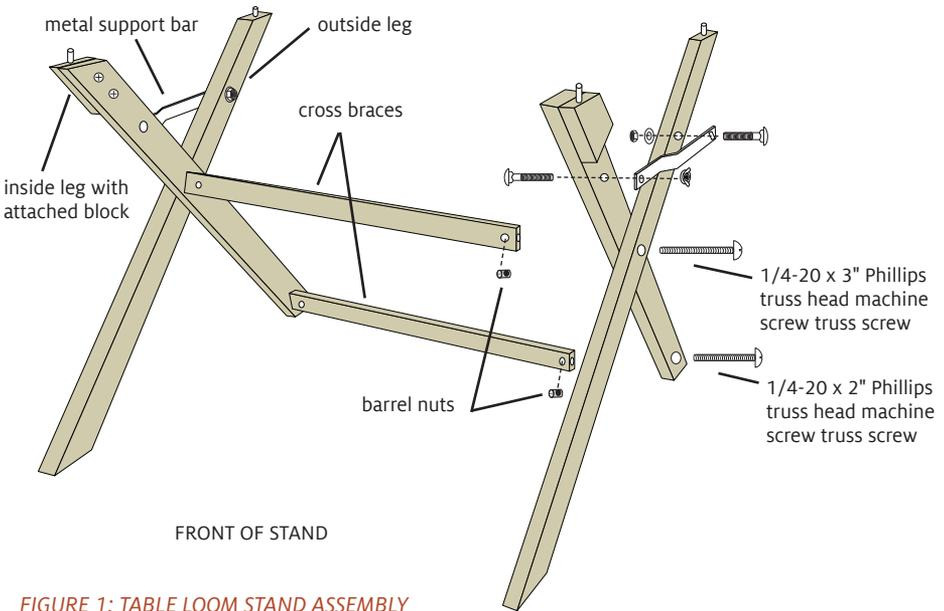

FIGURE 1: TABLE LOOM STAND ASSEMBLY
3. Attach the lower cross brace: Insert a barrel nut into each hole of one of the cross braces. Insert a 1/4-20 x 2" Phillips truss head machine screw through the bottom hole of an inside leg and tighten into the barrel nut in the lower cross brace (Figure 1). Repeat for the other inside leg.
4. Attach the upper cross brace: Place the outside legs, with pins facing up, on the outer side of the inside legs. Insert a barrel nut into each hole of the second cross brace. Insert a 1/4-20 x 3" Phillips truss head machine screw through the bottom hole of the outside leg, then through the middle hole of the inside leg. Fasten the bolts into the barrel nuts in the upper cross brace (Figure 1). Repeat with the other outside leg.